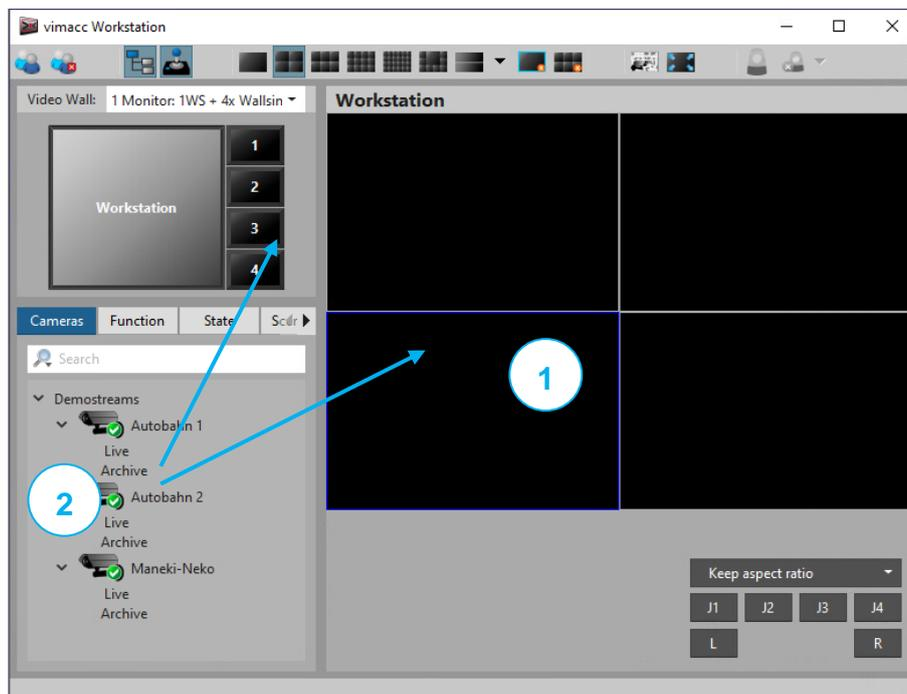

Figure 3-31: Connecting cameras
- Select the video dialog in which the video should be shown. The video dialog becomes "active" and is marked with a blue frame (see Figure 3-31: Connecting cameras)
Marked cameras can also be directly connected to the video control via drag & drop (see Figure 3-31: Connecting cameras).